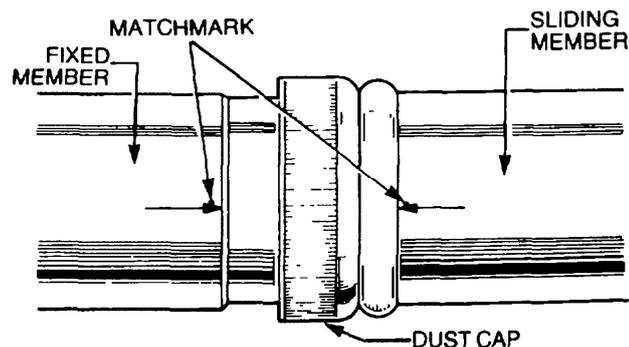

Figure 96 Propeller Shaft Matchmark
- d. Matchmark the propeller shaft (Figure 96).